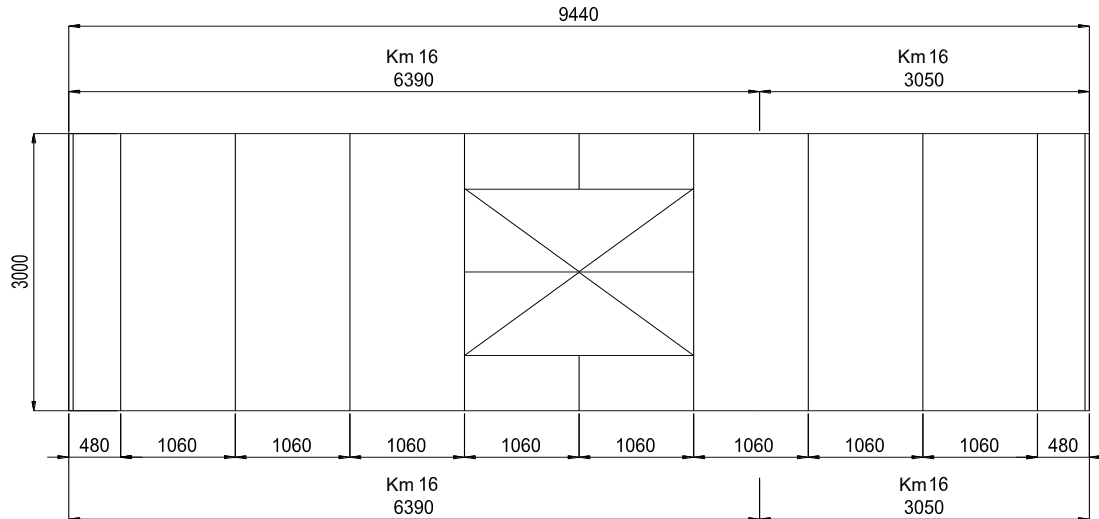

Figure 23 Example layout of the bearing and edge profiles of a continuous rooflight
1. Start by fixing the edge profiles (Km XX or Kd XX) to the rooflight base. First, lay out the profiles on the roof surface along the rooflight base according to the assembly drawing attached to the delivery. (Figure 23 Example layout of the bearing and edge profiles of a continuous rooflight) shows an **example layout of edge and bearing profiles**.